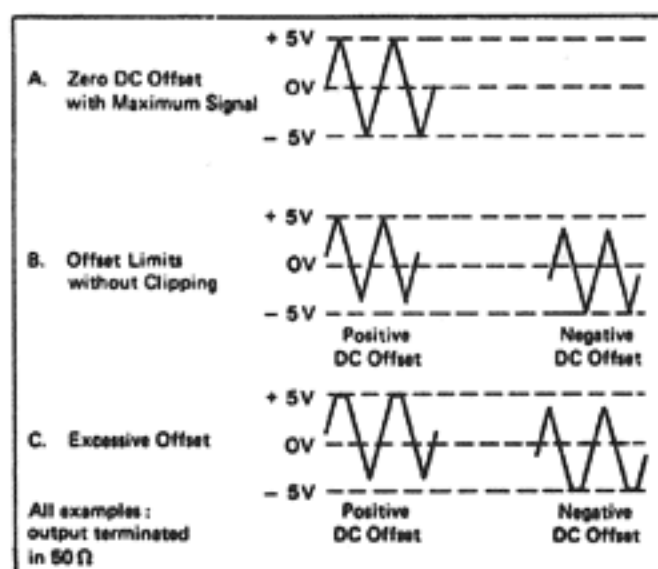

Fig. 4 Use of DC OFFSET control.
- 1) The DC offset control can be varied up to ± 10 volts (open-circuit), or ± 5 volts (50 Ω). Also remember that the sum of combined signal and DC offset is also limited to ± 10 volts when open-circuit, or ± 5 volts when 50 Ω . Clipping occurs slightly above these levels. Fig 4 illustrates the various operating conditions